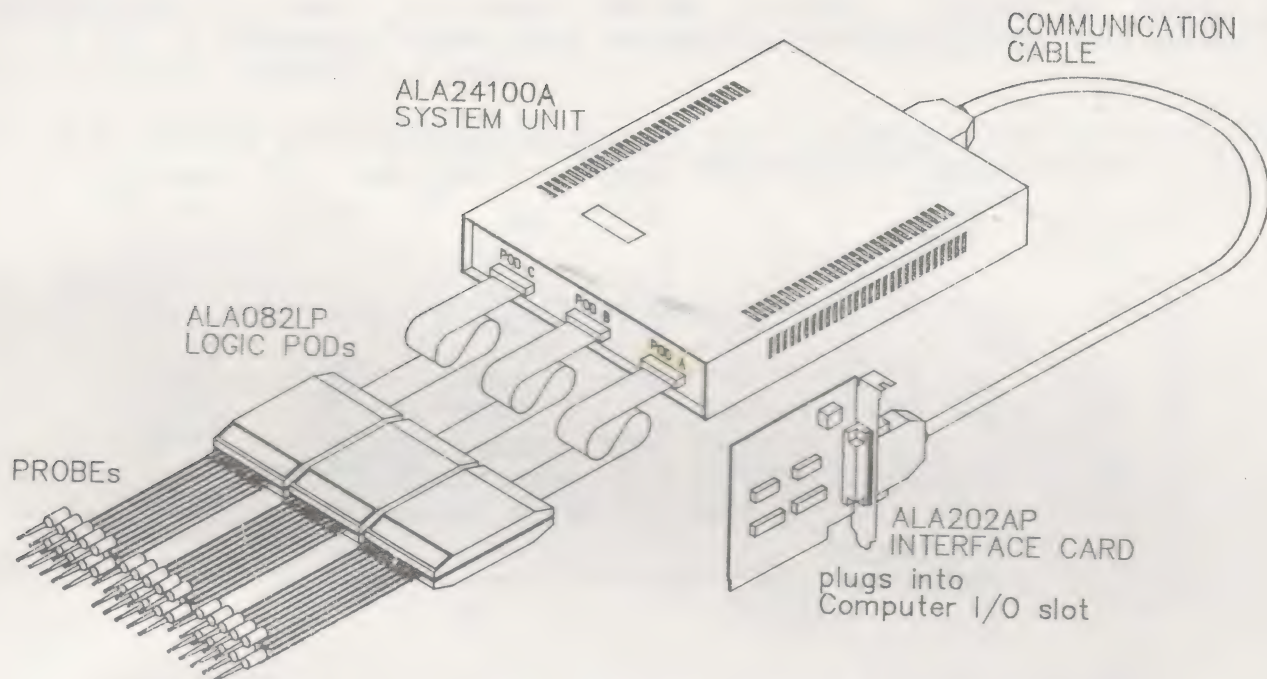

Fig. 2-1 Illustration of ALA 24100A Logic Analyzer
Figure 2-1 is an illustration of ALA 24100A hardware installation, it is called as Analyzer Unit (AU), including the ALA System Unit, one connection cable, one interface adaptor, and three Logic PODs with the Flat Cable.